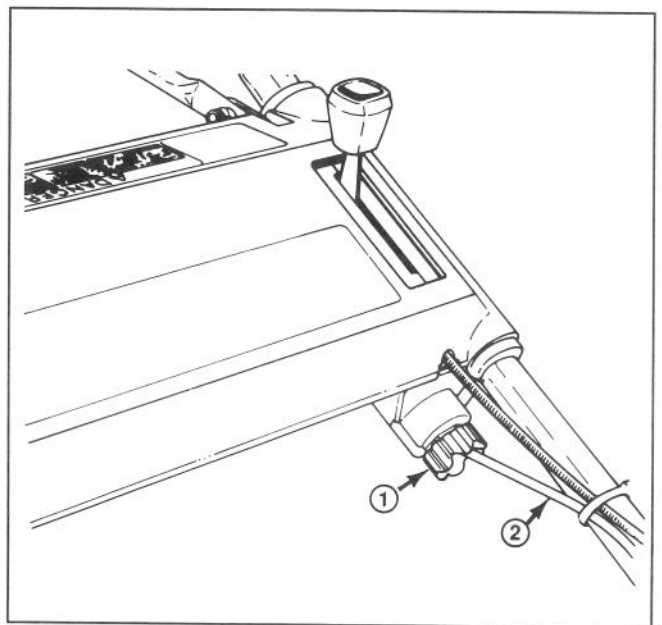

Figure 20
2. Rotate adjustment knob under lower left hand side of control panel (Fig. 20) 1/2 turn clockwise to tighten drive belt, or 1/2 turn counterclockwise to loosen belt. Hold control cable while rotating to prevent cable from turning.